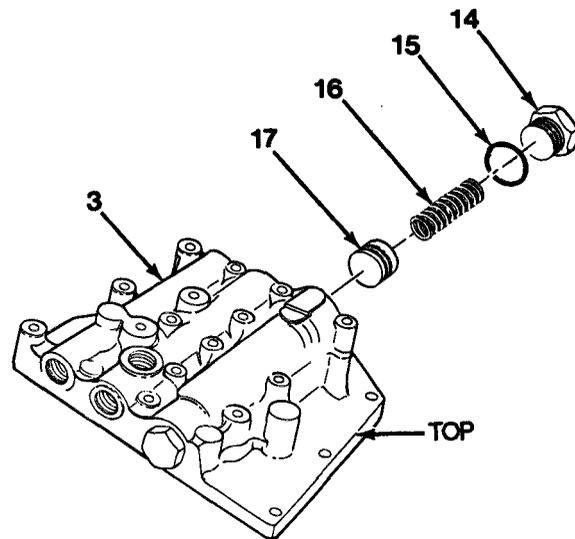

Figure 11-6
2. Install rolled needle (22) and roller (23) in back side of valve body (3, Figure 11-6).